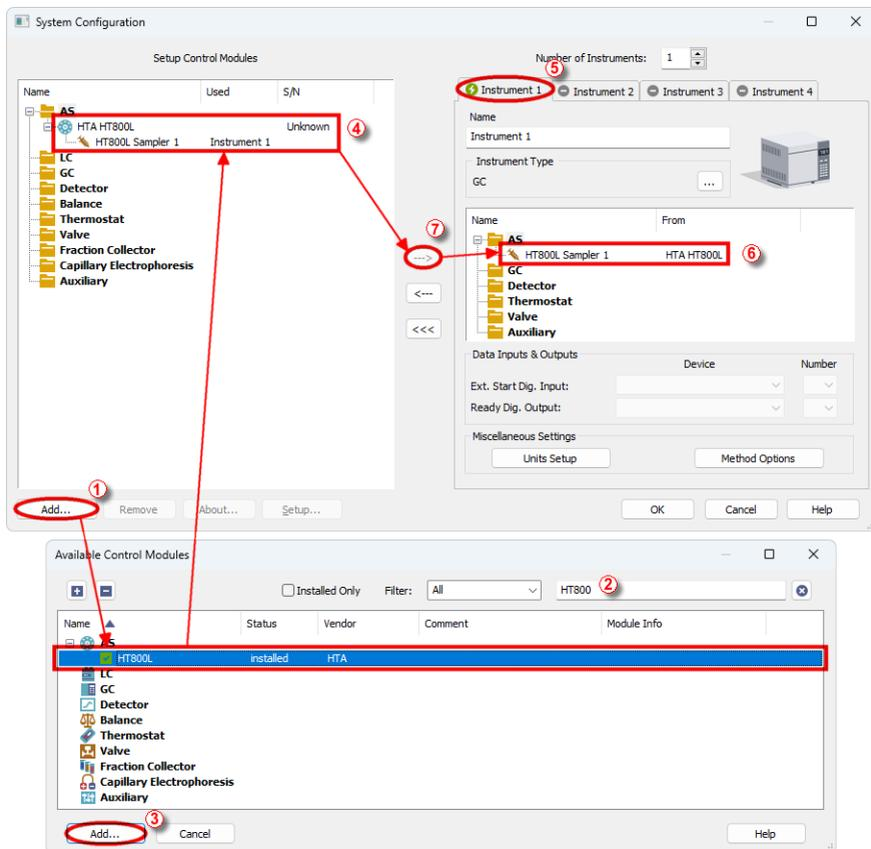

Fig. 4: System Configuration
- Press the **Add** button ① (see Fig. 4 on pg. 6.) to invoke the **Available Control Modules** dialog.
- You can specify the searching filter ② to simplify the finding of the driver.
- Select the **HT800L** and press the **Add** ③ button.